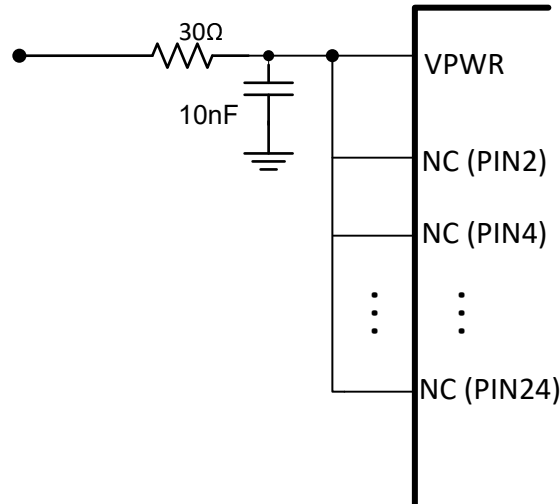

図 9-8. NC Pins Tied to VPWR
- Short unused NC pins between 2 and 24 (including 2, 24) to VPWR as shown in 図 9-8.
All NC pins between pin 1 and Pin 25 need to be tied to VPWR as shown in Figure 9-8.